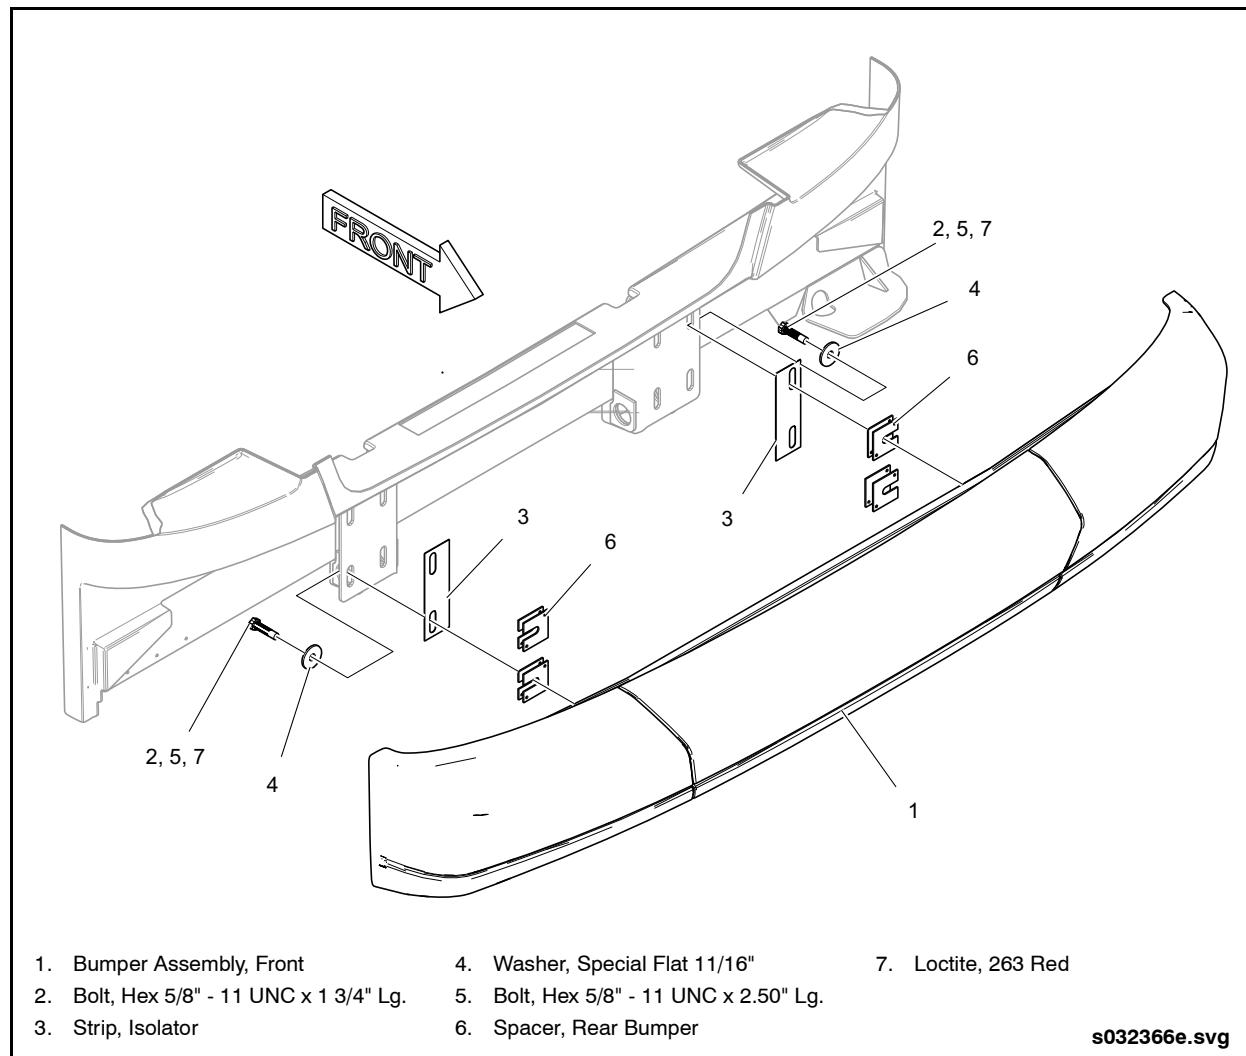
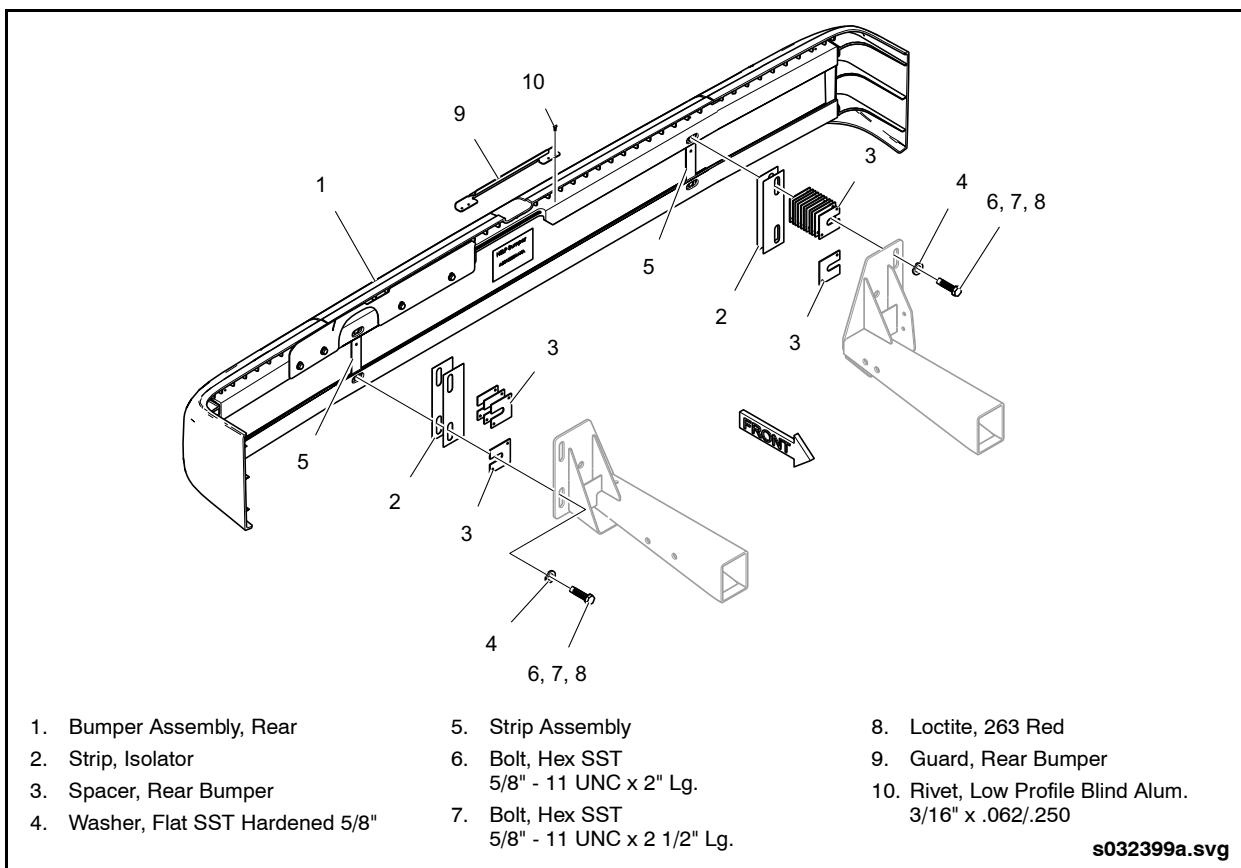

Fig. 13-10: Front Bumpers Installation & Removal
Fig. 13-11: Rear Bumpers Installation & Removal
1. Support the bumper assembly and remove the four bolts, nuts, and washers securing the bumper assembly to the vehicle structure. See "Fig. 13-10: Front Bumpers Installation & Removal" on page 32. See "Fig. 13-11: Rear Bumpers Installation & Removal" on page 33.